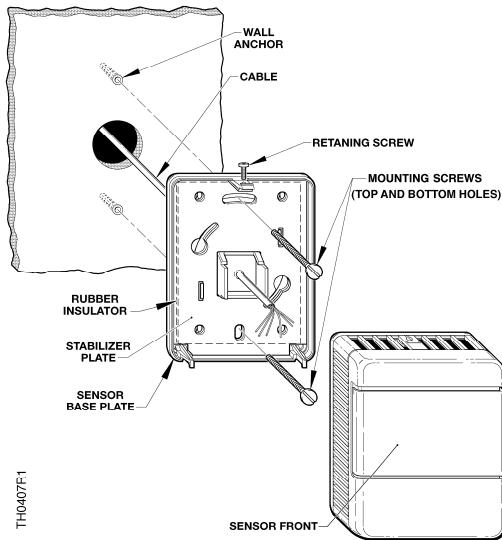

Figure 1. Drywall Mounting (No Rough-in), Typical.
- Using the sensor base plate as a template, mark the center field wiring hole and the mounting hole locations (See Figure 1).
- Tighten the sensor front retaining screw (See Figure 1).